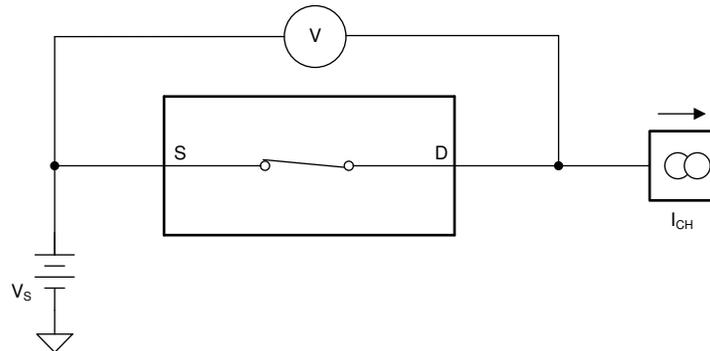

Figure 7-1. On-Resistance Measurement Setup
The on-resistance of the TMUX6136 is the ohmic resistance across the source (Sx) and drain (D) pins of the device. The on-resistance varies with input voltage and supply voltage. The symbol  $R_{ON}$  is used to denote on-resistance. The measurement setup used to measure  $R_{ON}$  is shown in Figure 7-1. Voltage (V) and current ( $I_{CH}$ ) are measured using this setup, and  $R_{ON}$  is computed as shown in Equation 1.